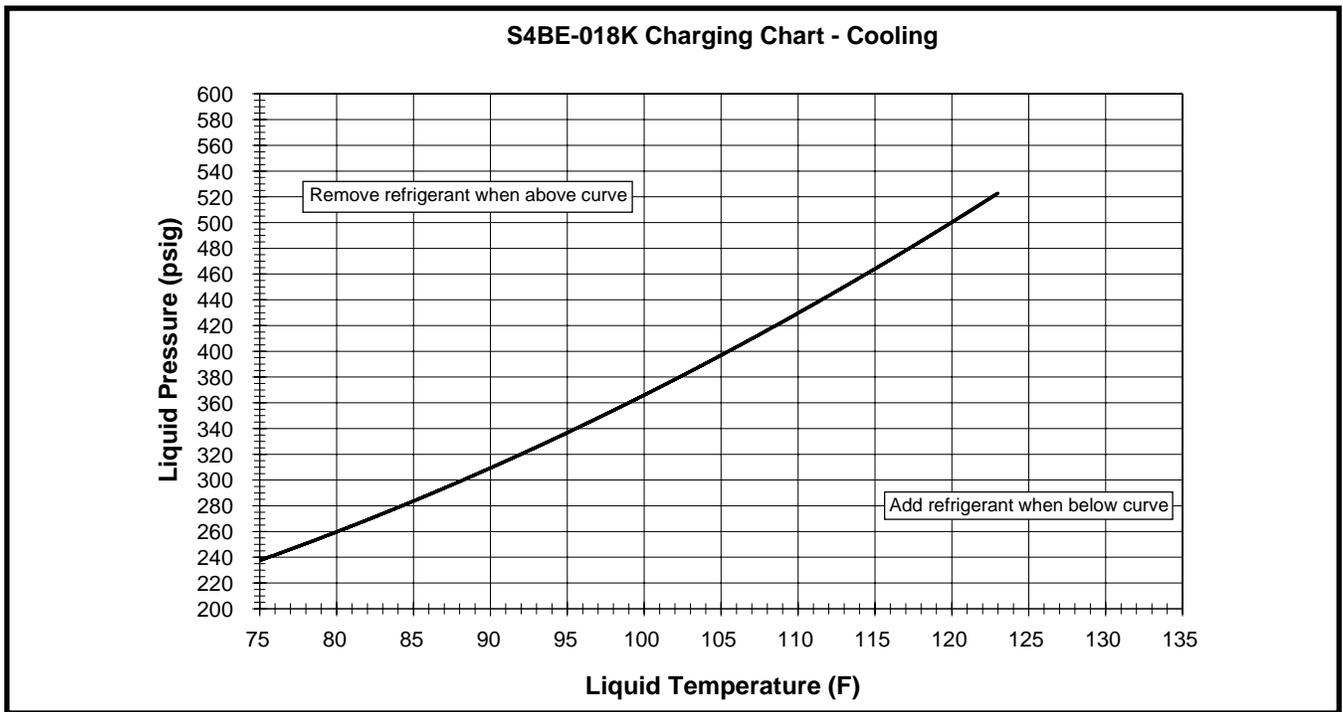

Figure 3. Charging Chart for S4BE-018 Series (1.5 Ton Units) - TXV Matches
- Refrigerant charging charts are applicable only to matched assemblies of NORDYNE equipment and listed airflows for the indoor coil. Refer to Figures 3 - 9 (pages 9 - 12) for correct system charging.
3. Determine the required liquid refrigerant pressure from the appropriate charging chart (Figures 3 - 9).
- The refrigerant charging charts are valid for a variety of indoor, return air conditions and are most influenced by the outdoor ambient temperature, outdoor fan operation and the unit operating voltage. Before using these charts, make sure the unit is in a stable operating mode. As shown in Figures 3 - 9 (pages 9 - 12), the ideal system sub-cooling can vary over the range of operation. Reference the charts to determine the ideal amount of sub-cooling for a given liquid pressure. Units charged to other values will not perform at the rated unit efficiency (EER) or rated Coefficient of Performance (COP) in heating mode.